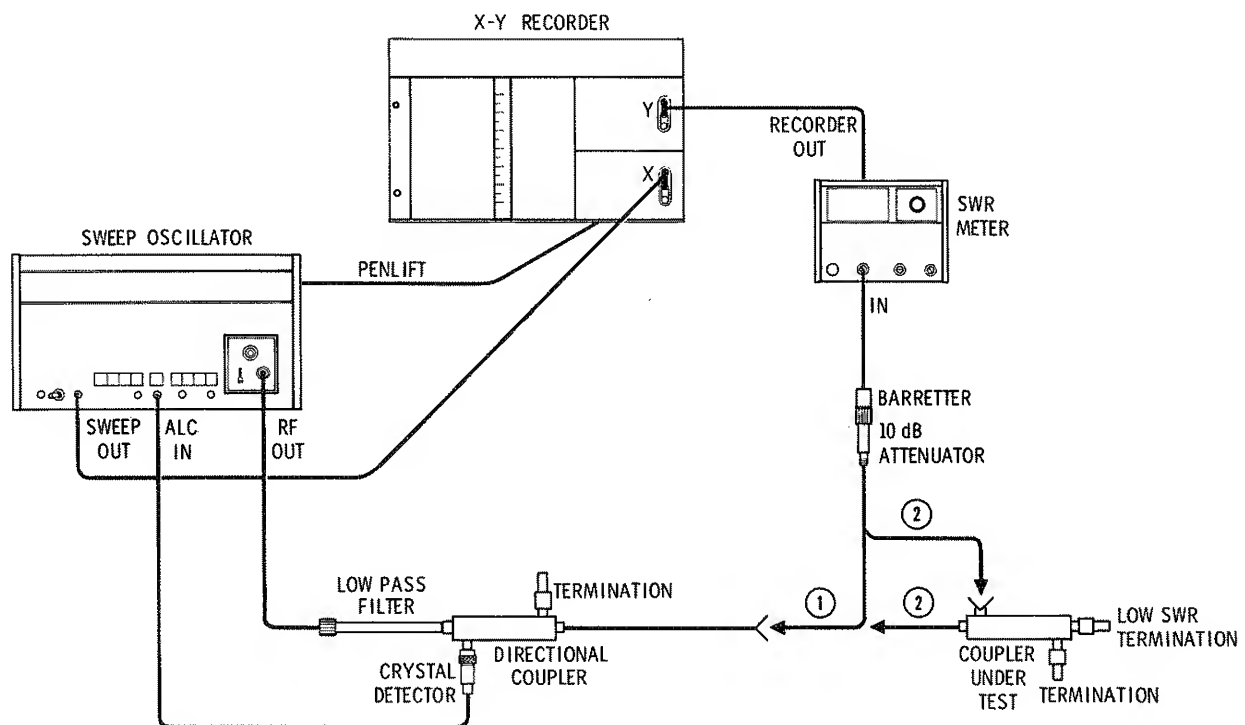

Figure 12. Coupling Test Setup
- a. Connect the equipment as shown in (1) in Figure 12.
1. Connect the coupler under test as shown at (2) in coupling test setup, Figure 12. This will insert the nominal 20 dB (down) coupling (attenuation) in the signal path.